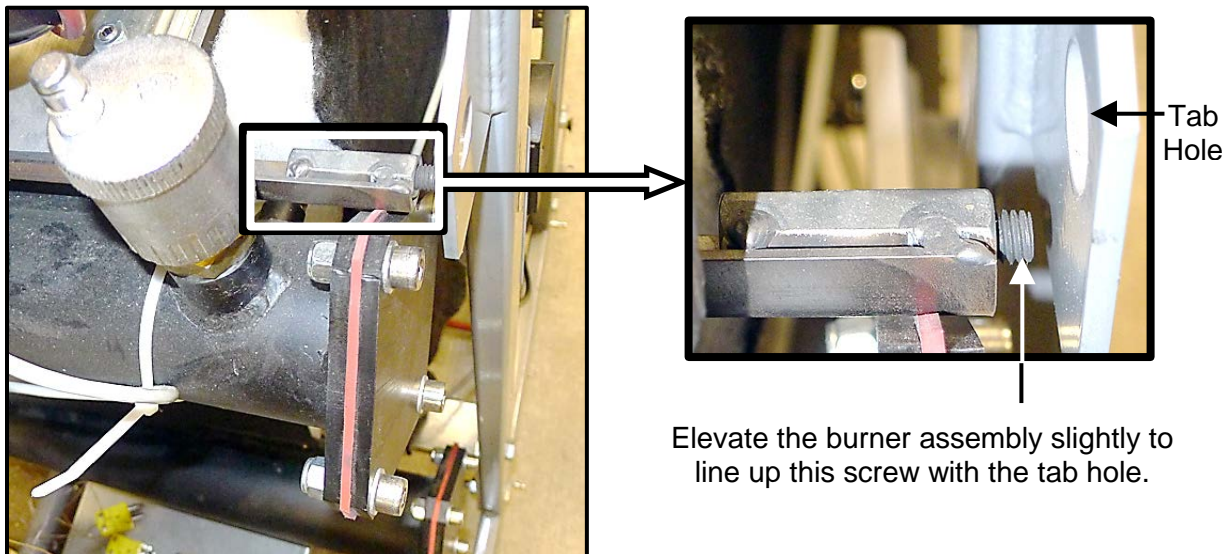

Figure 8: Location of Burner Assembly Lifting Screw
6. In order to hold up the burner assembly in place, lift up the front of the burner assembly until the two lift pins are aligned with the left and right side tab holes (see Figure 8).